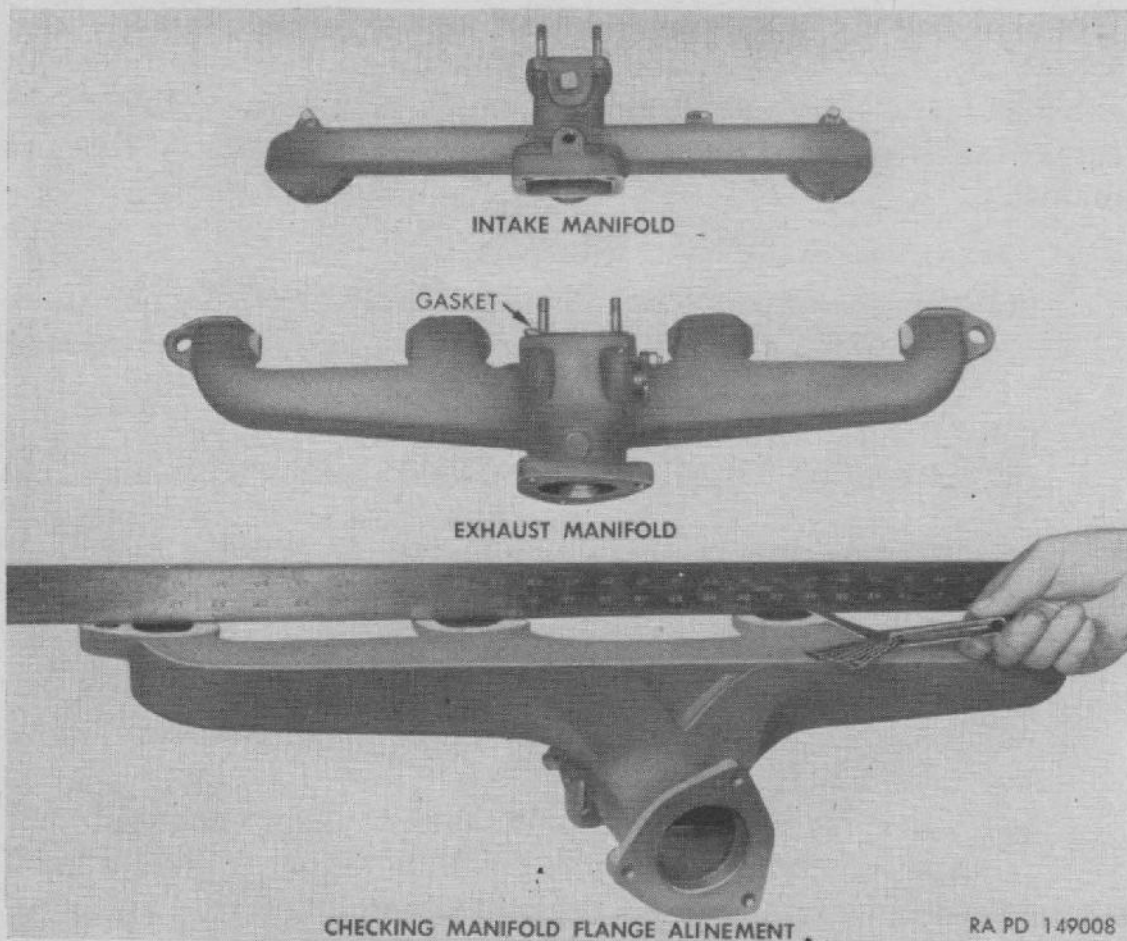

Figure 29. Inspecting manifolds.
- (1) Inspect manifolds for evidence of cracks and use straight edge to check exhaust manifold flanges for alinement (fig. 29). Flanges should be in line within 1/32 inch. Clean gasket surfaces and pilot counterbores at cylinder head and manifolds. Check condition of heat-control valve in exhaust manifold.
- (2) Assemble manifolds using new gasket between intake and exhaust manifolds. Tighten attaching stud nuts and bolts finger-tight.